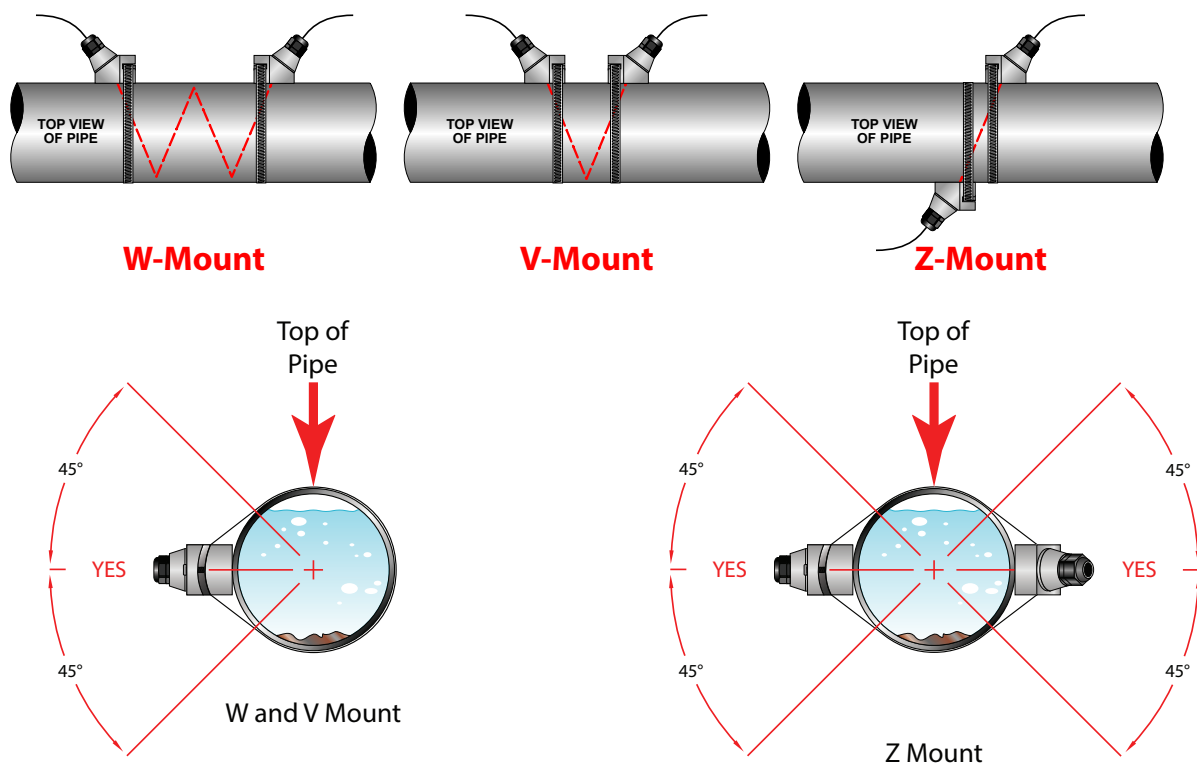

Figure 2: Transducer mounting configurations
- If the application requires FDT-47, FDT-48 or FDT-47-HT transducers, select a mounting method for the transducers based on pipe size and liquid characteristics. See *Table 2 on page 17*. The three transducer mounting configurations are shown in *Figure 2*. See “*Transducer Mounting Configurations*” on *page 20* for mounting procedures.